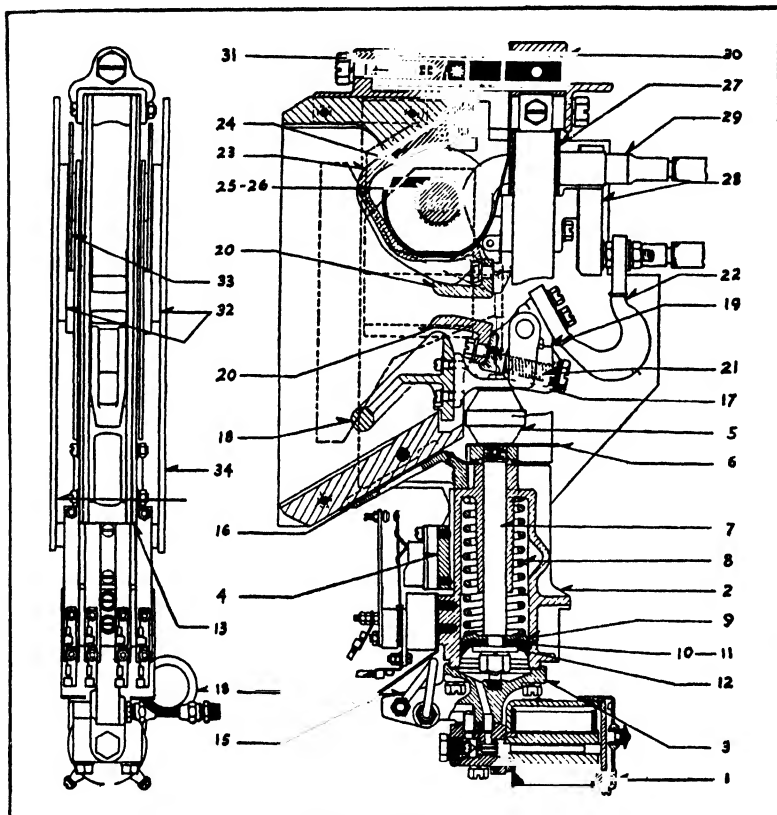

Fig 24. Unit Switch
*Electro-pneumatically Operated Unit Switches—(where large currents are to be interrupted, Fig. 24)*